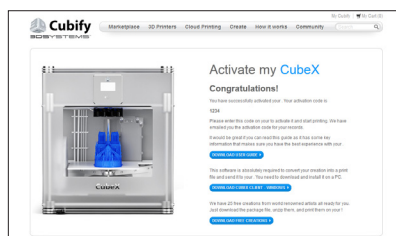

Fig. 16
- Congratulation, Your CubeX is now activated in [Cubify.com](https://cubify.com). To unlock your CubeX, the four digit Activation Code that appears on the screen will be needed. (Fig. 16) Also, an email will be sent to you with your Activation Code. Click on Marketplace drop down menu and click on Free Files. Download the free creation files to your USB stick or save them on your computer.